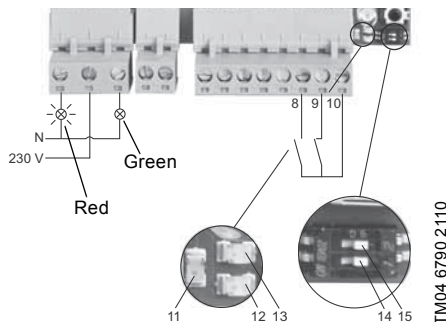

Fig. 10 Detection of overflow
See fig. 10.
7.1.1 *System alarms and warnings* and fig. 10.